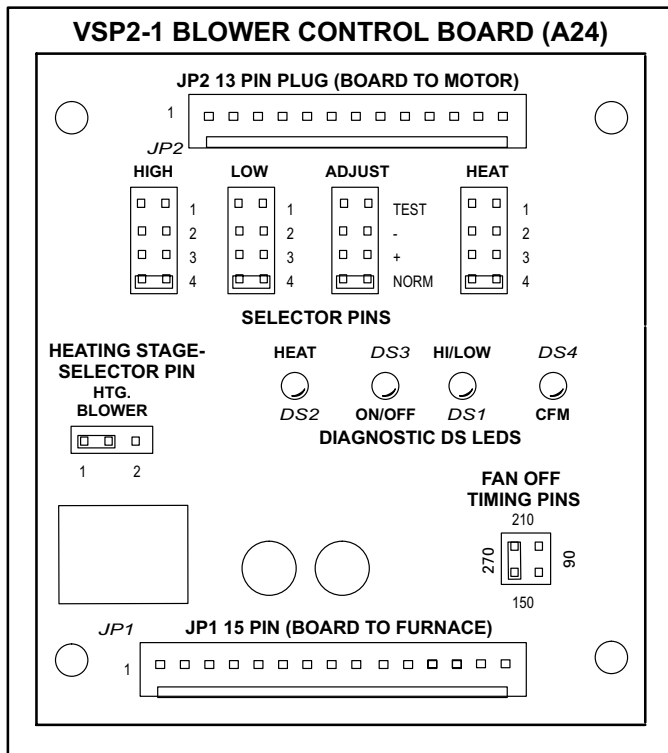

FIGURE 13
Single Stage Heating	See Figure 13 For Pin Setting
NOTE For single stage heat application with the IMC2 motor VSP2-1 will have a selector pin for single or second stage heating. See figure 13.
-10 to -15 (Figure 13)
To change jumper positions, gently pull the jumper off the pins and place it on the desired set of pins. The following section outlines the different jumper selections available and conditions associated with each one. Refer to figure 13 for identification.